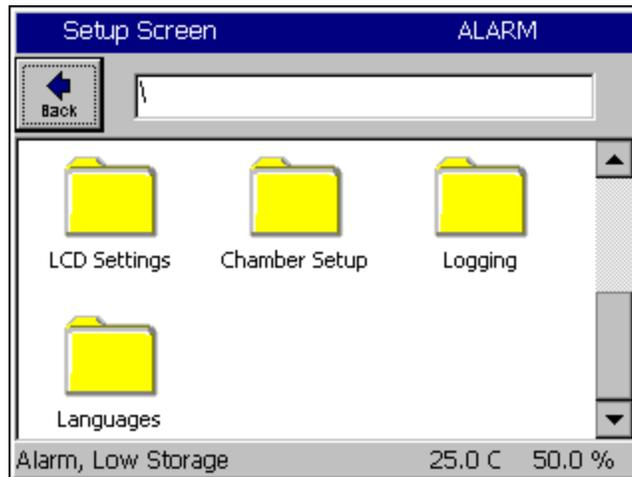

Figure 2
1. Go to Setup Screen folder and scroll down to select the Logging folder (Figure 2).